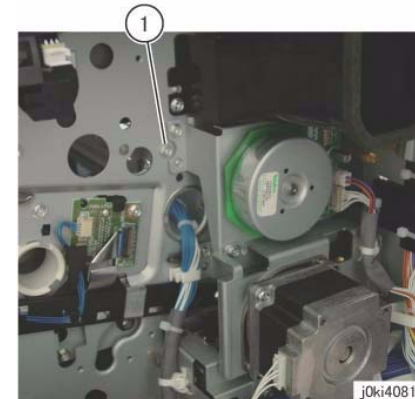

Figure 10 Remove the screw
15. Remove the screw that secures the Erase Lamp Unit (K) at the rear. (Figure 10)